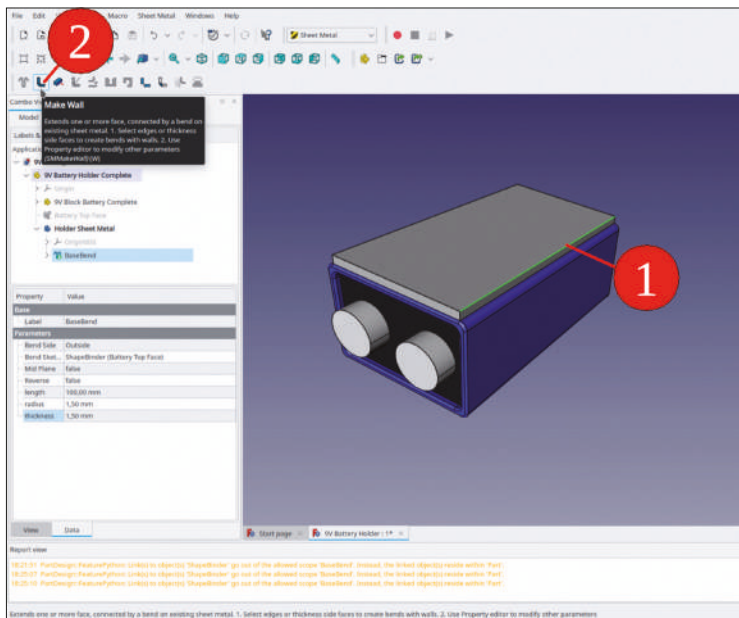

Figure 5-7
10. Select one top edge of the new sheet metal piece and click the 'Make Wall' tool button (Figure 5-7).